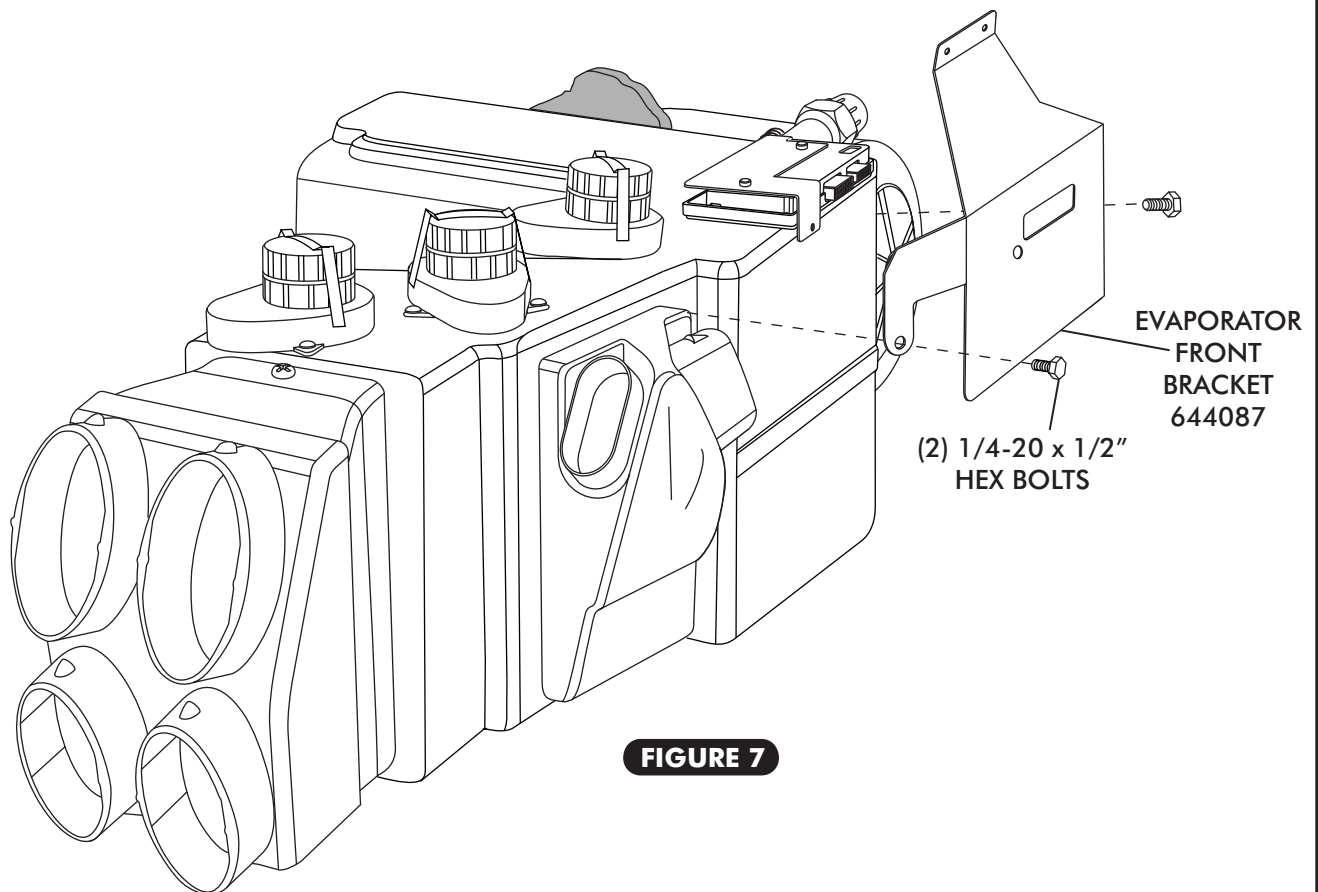

FIGURE 7
- INSTALL EVAPORATOR FRONT BRACKET ON EVAPORATOR USING (2) 1/4-20 x 1/2" HEX BOLTS, AND TIGHTEN AS SHOWN IN FIGURE 7, BELOW.